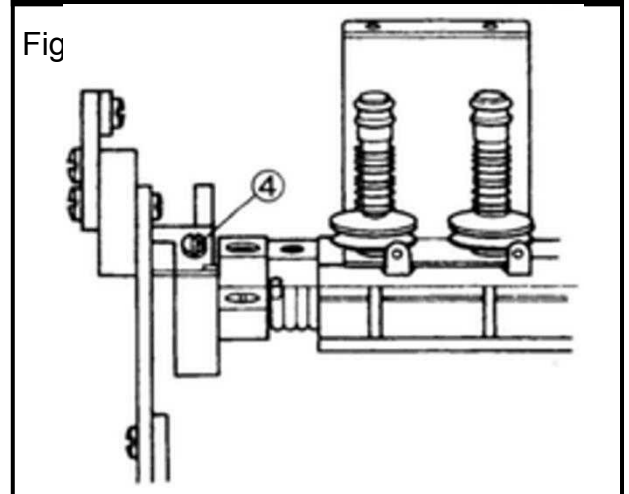

Fig.10
(1) 放开提升摆臂（大）的螺钉④。(Fig.10)
(1) Loosen the screw ④ of the presser bar lifter lever (large).(Fig. 10)